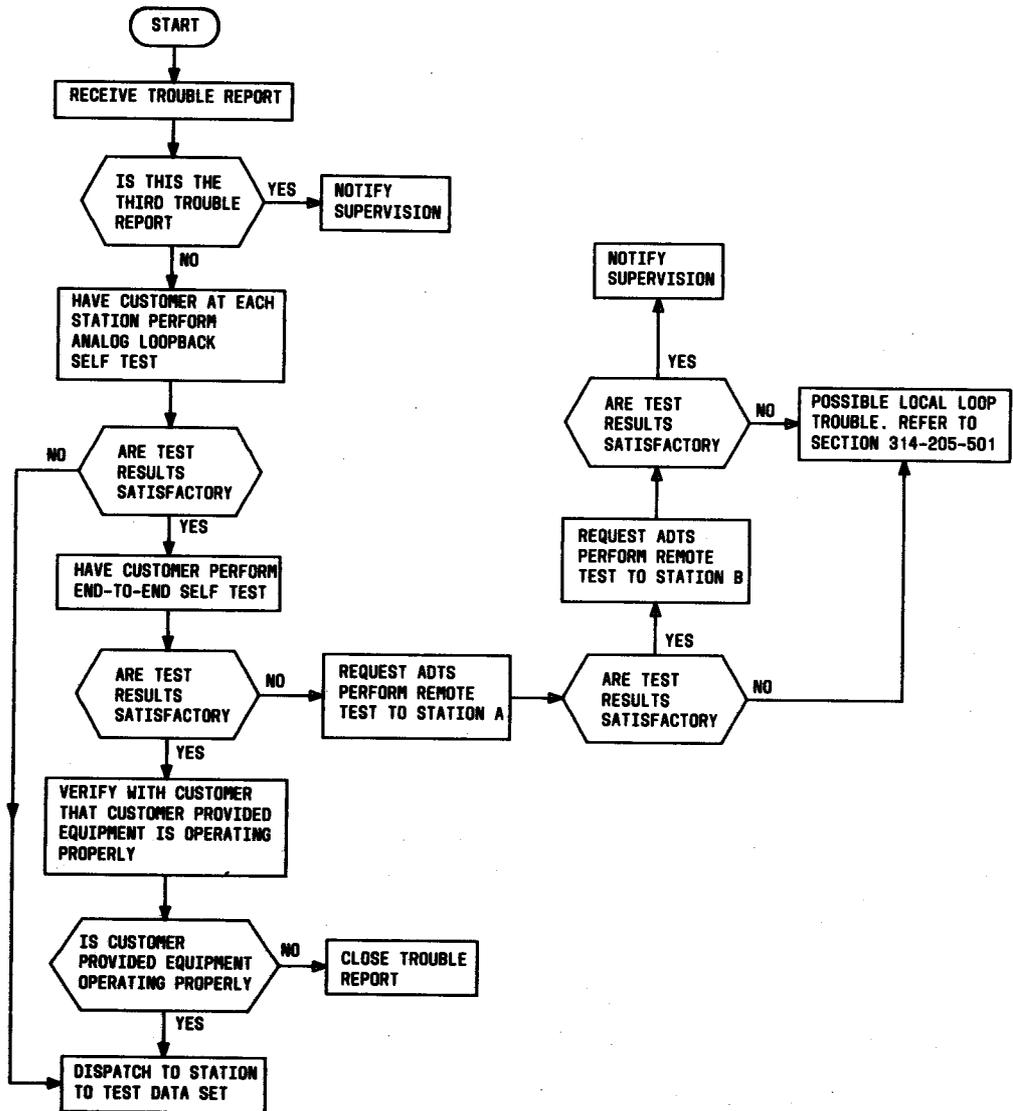

Fig. 2—Clearing Trouble Report
**3.02** When a trouble report is received, a test center is responsible for isolating the trouble to the data station or the transmission facility. The procedure for doing this is shown in Fig. 2.